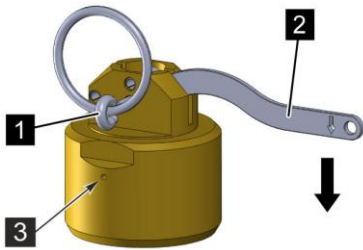

Fig. 31: Activating
1. ➤ Pull the safety pin (Fig. 31/1) out of the manual release device.
2. ➤ *i* When the release lever is operated, the upper valve chamber in the valve is vented. Pressurized gas flows through it through a pressure relief hole in the cap nut of the release device (Fig. 31/3).
3. ➤ Press down the release lever (Fig. 31/2) of the manual release device as far as it will go (Fig. 31/ arrow) and hold it down for 5 s.